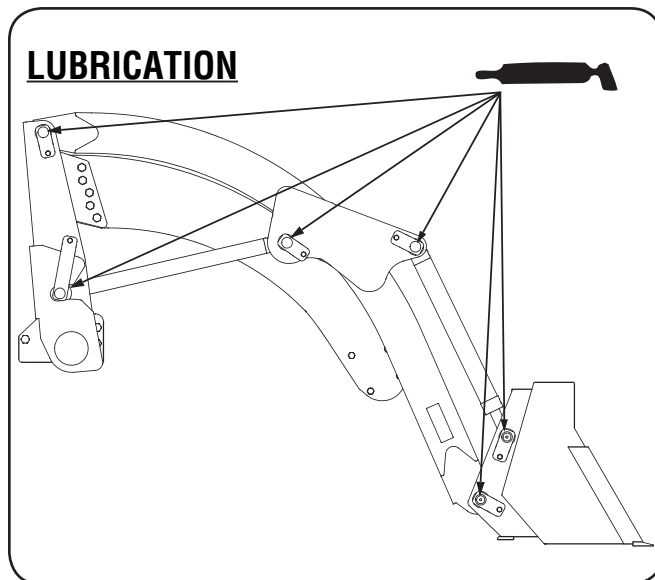

Figure 27
- Lubricate after every eight hours of operation (See Figure 27):